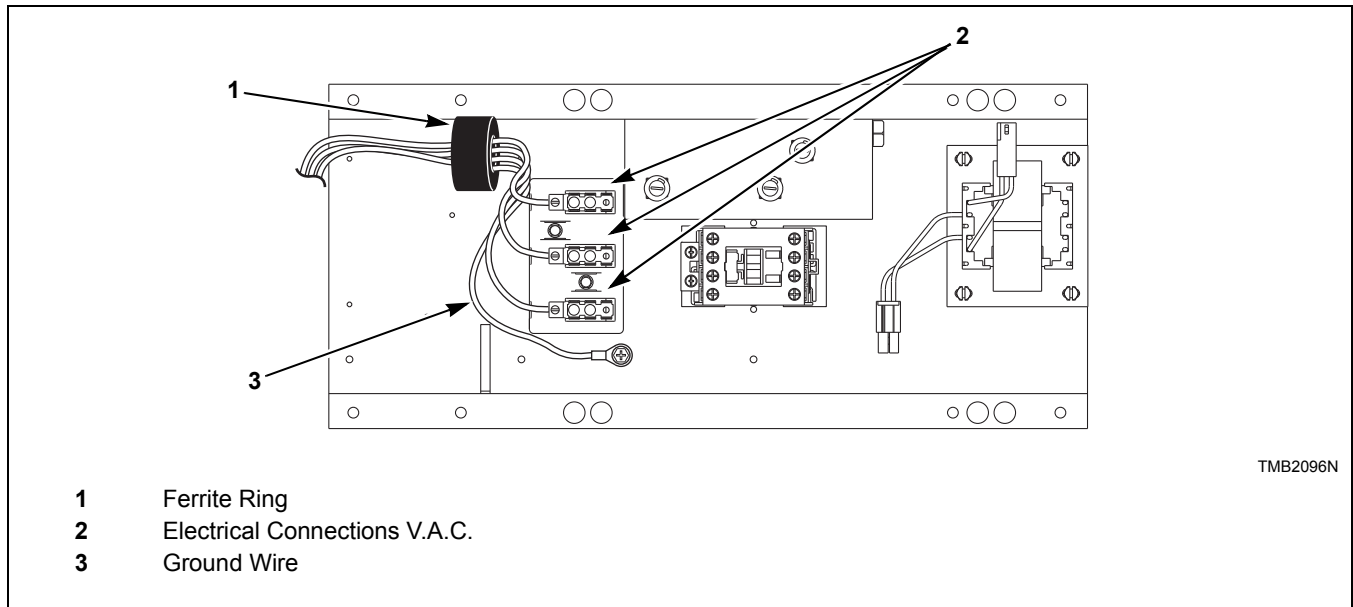

Figure 20
2. Snap the ferrite ring closed over all of the service leads inside of the control tray as shown. It is important that the ferrite ring be installed inside the control tray. Refer to *Figure 20*. Do not install the ferrite outside of the box or other area. Make sure that service leads are in the center of the ferrite before closing the ring so as not to pinch or damage leads.